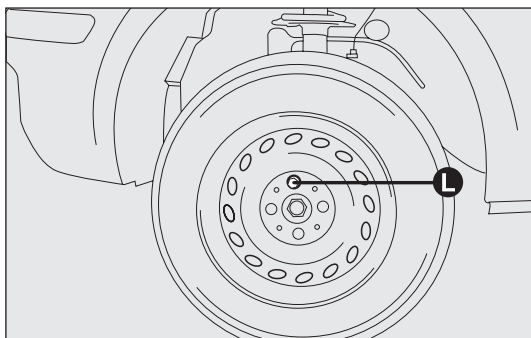

fig. 154
- ☐ for versions with hub caps, remove the cap after unscrewing the 3 fastening bolts and then unscrew the fourth bolt L-fig. 154 and remove the wheel;